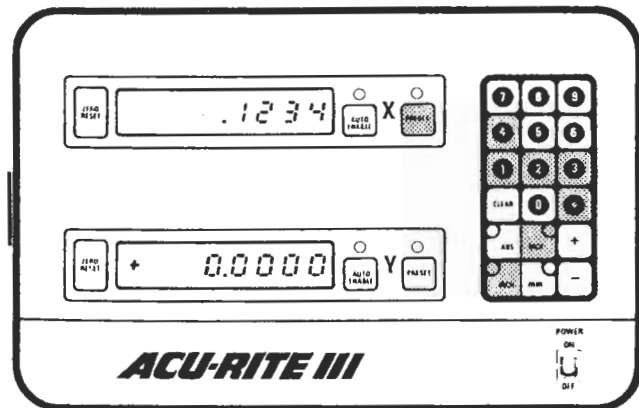

Figure 3-10. Console Status: Digit Display
- e. Enter the preset value by pushing the appropriate digit keys, including the decimal point (see Figure 3-10). If an error is made, push the CLEAR key and start again.